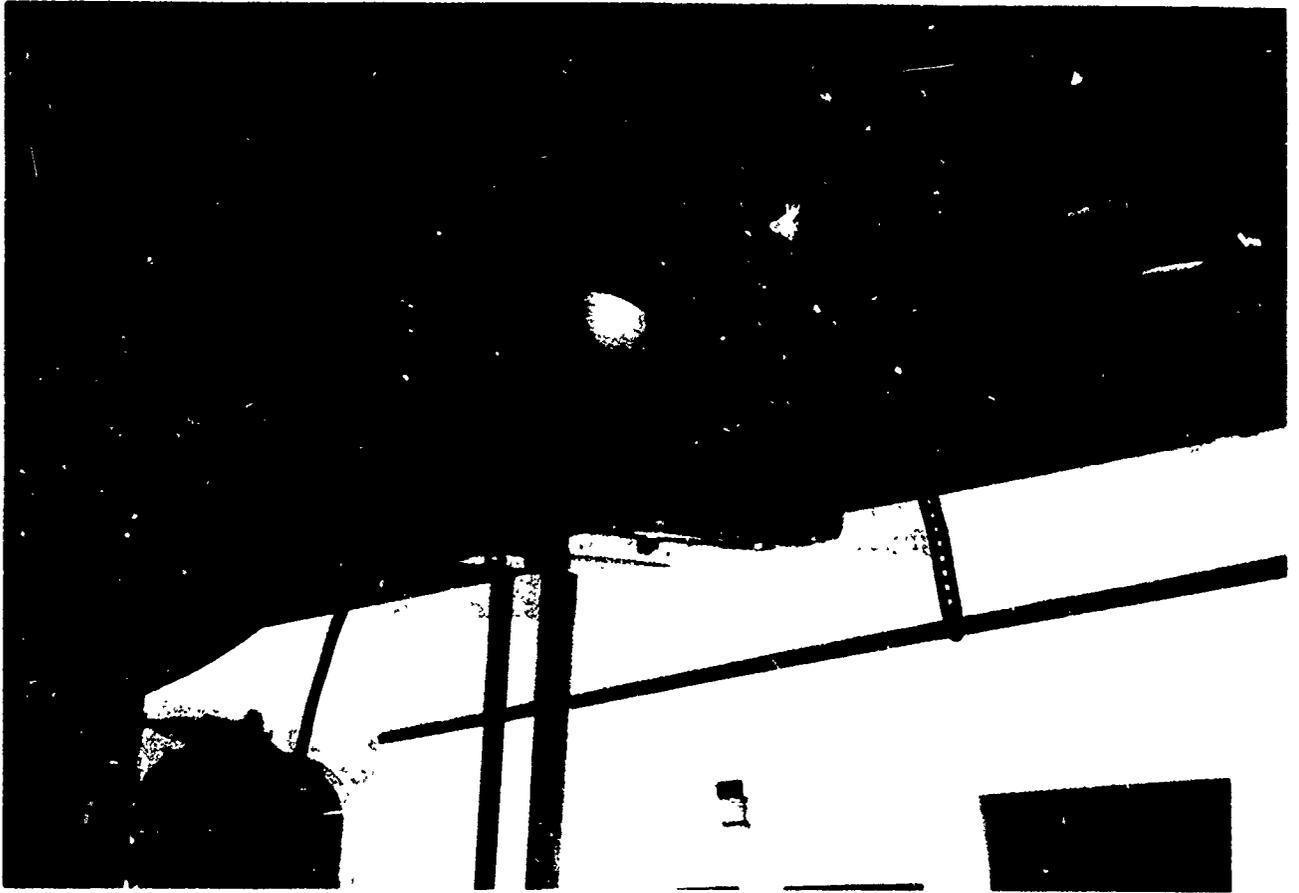

Figure 31. Video Transmitter.
11. Video Transmitter (Figure 31)